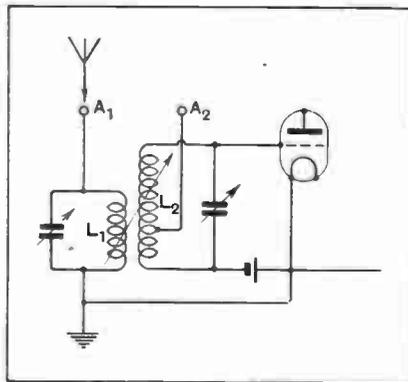

Fig. 2.—Alternative tuned or aperiodic aerial coupling.  $L_1$  and  $L_2$  are the aerial and secondary coils respectively.
**M**ANY of the advantages of both the tuned and aperiodic aerial coupling systems may be obtained by using the arrangement of Fig. 2. If the aerial lead-in is